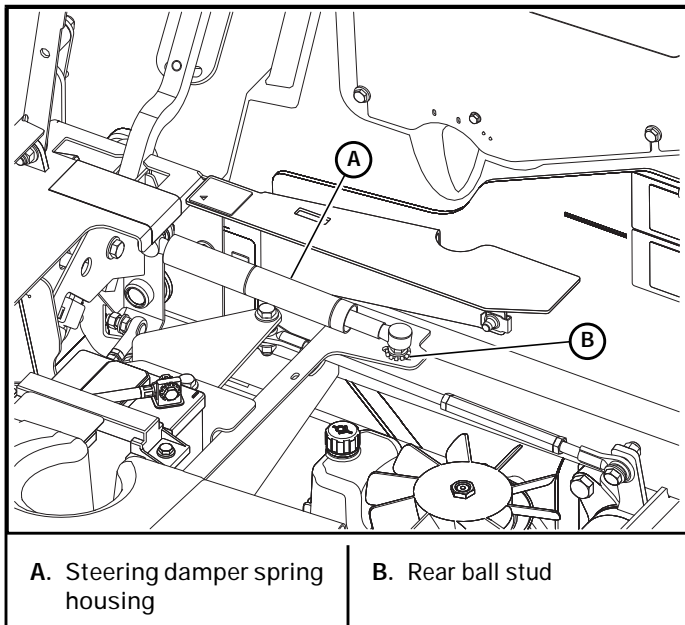

Figure 6-7
3. Loosen the nut on the steering damper rear ball stud enough to allow the stud to move freely within the slot. Figure 6-7
4. Pull the damper rod end toward the back of the slot, past the point that the internal spring is engaged. Figure 6-7